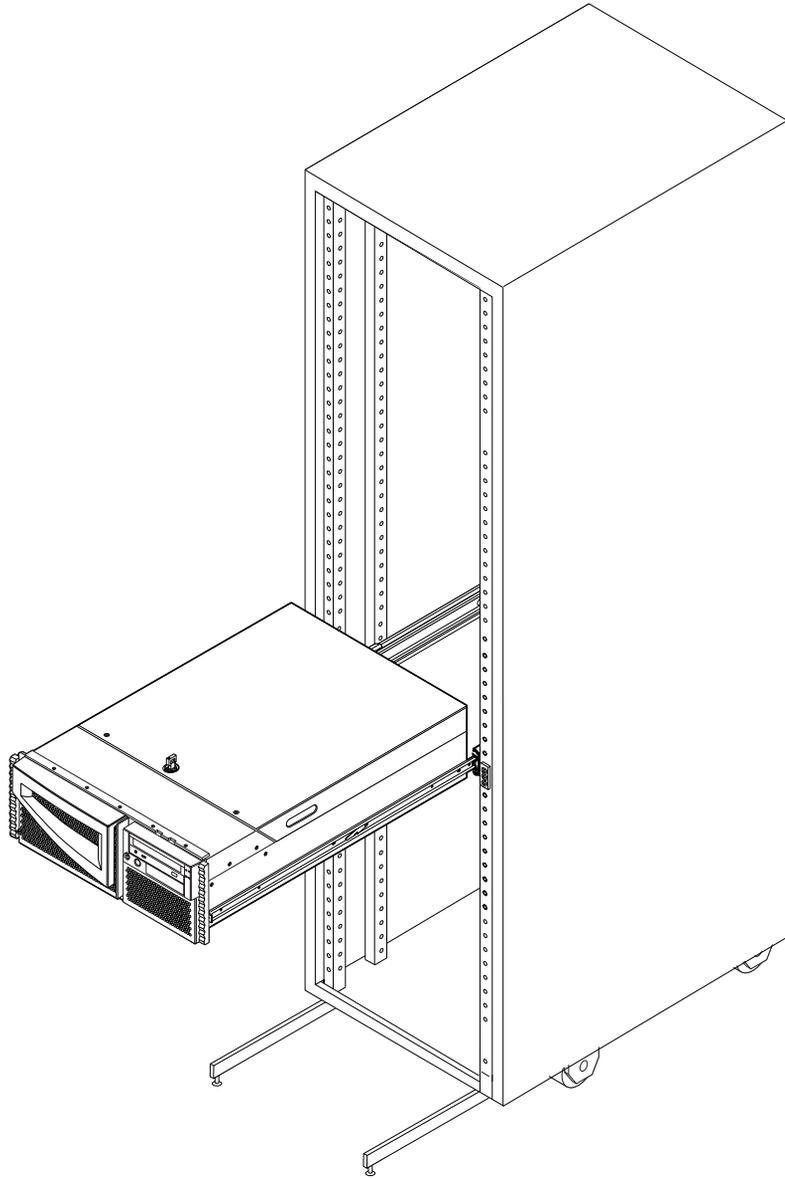

FIGURE 9-17 Sliding the File Server or Compute Engine Chassis out of the Rack
- 6. Slide the file server or compute engine chassis evenly out of the rack until the inner glides are stopped in the slide by the side flat spring catches (FIGURE 9-17).**